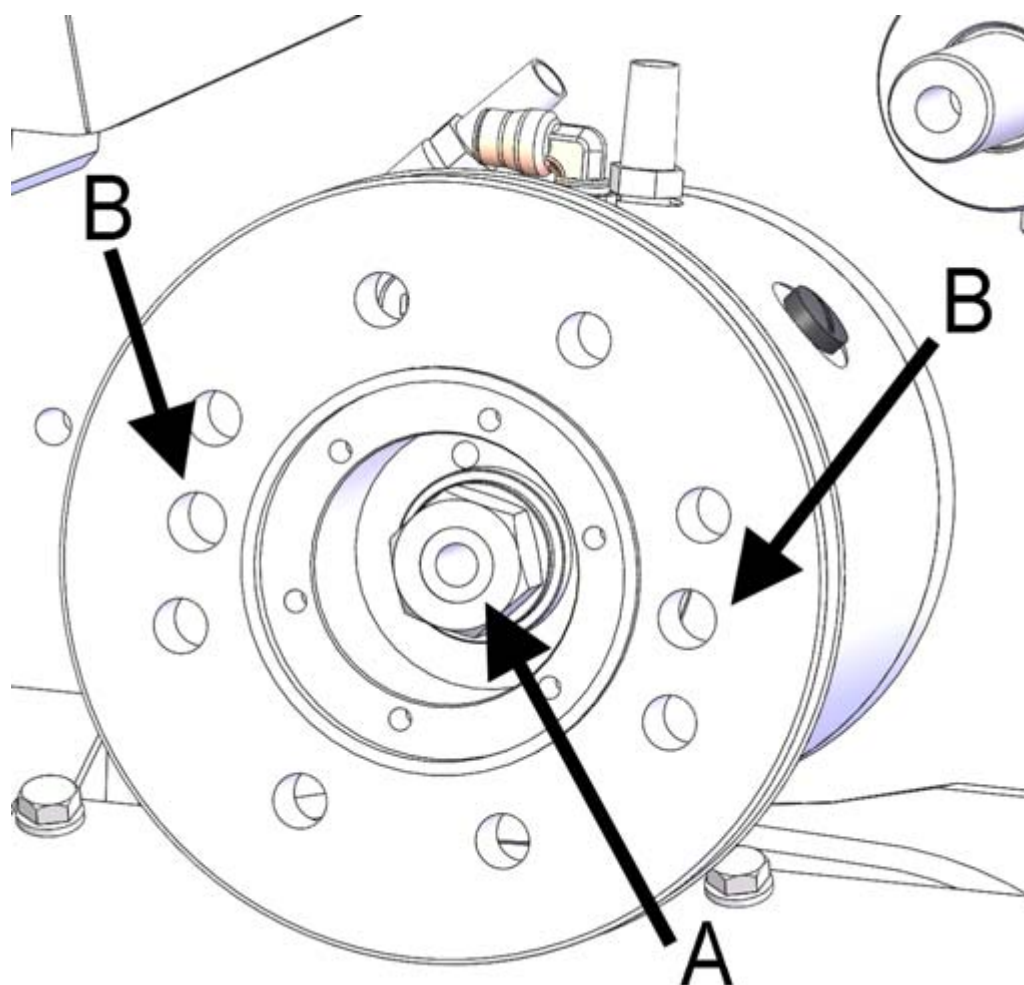

Figure 3. Drive flange fastening nut
If you need to replace the entire bearing, including the shaft, you can leave the drive flange in place and remove the bearing housing screws through the holes on the drive flange (figure 3, point B). However, this is not an option with older models that do not have the holes on the drive flange.
3. Unscrew the nut (figure 3, point A) and use pliers to remove the spacer under the nut. Pull the drive flange out of the cone with a sturdy extraction tool.